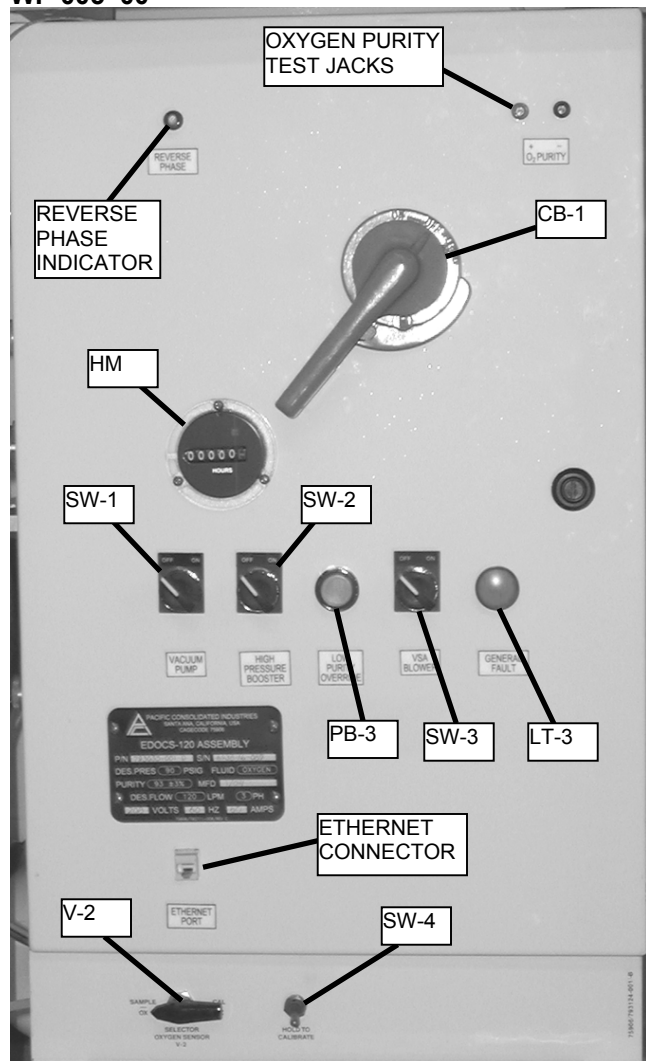

Figure 1. Electrical Control Panel.
- Plug in the power cable into the receptacle at the lower right corner at the front of the EDOCS-120. Switch the main circuit breaker (CB-1) disconnect lever to 'ON' (rotate counter-clockwise). Refer to Figure 1. Check the phase reversal light to ensure proper phase direction. If the phase light is illuminated, turn power off and switch any two main power leads (L1, L2, L3) at the power source end of the power cable.
- Figure 1. Electrical Control Panel.
- Turn the main power circuit breaker (CB-1) disconnect lever on (see Figure 1).
- Set the VSA blower control switch (SW-3) to 'ON'. (see Figure 1) The VSA absorber pressure gauge (PI-8) should start-up in vacuum mode (see Figure 5).
If there are extreme surge usage conditions where the purity may fall below 90%, there is an override switch (PB-3) to allow delivery of oxygen at purities below 90% (see Figure 1).
- g. Switch the vacuum pump control switch (SW-1) to 'ON' (see Figure 1). See Figure 9 for the location of the vacuum pump (P-1).
- f. Slowly open the cylinder shutoff valve (V-7). If the booster compressor is set for automatically recharging the backup cylinders (SW-2 set to 'ON'), the compressor will automatically start and begin recharging the cylinders. If the booster compressor control switch (SW-2) is set to 'OFF', switch it to 'ON' (see Figure 1).